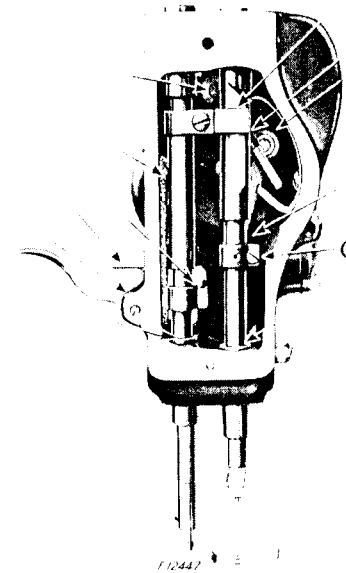

Fig. 4. End View of Machine, Showing Oiling Points
In case the needle bar is not correctly set, loosen the needle bar connecting stud pinch screw (C, Fig. 4) and place the needle bar in the correct position as directed above, then retighten the screw (C).